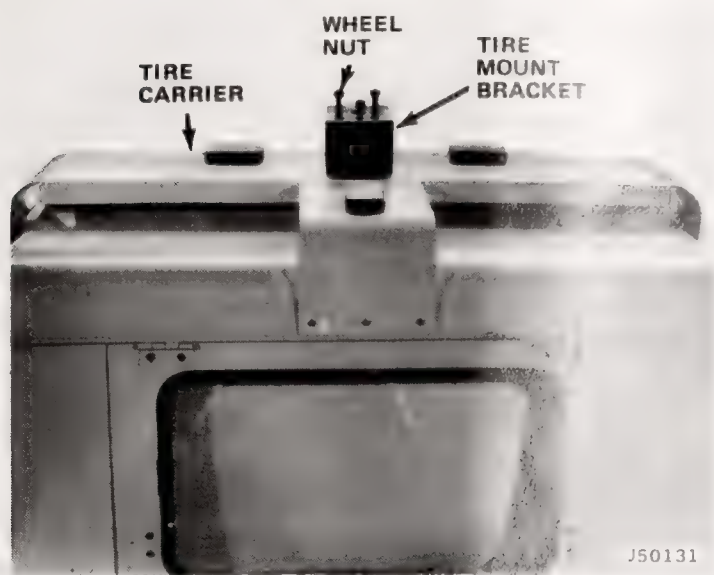

Fig. 6-4 Roof-Top Tire Carrier Installation
(6) Place tire carrier on roof and align tire carrier to roof sides and back (fig. 6-4). When properly positioned, mark and drill nine 9/32-inch holes using tire carrier as a template.
(7) Install tire carrier using 1/4-20 by 5/8-inch hex-head bolts, flatwasher, and locknuts. Tighten nuts to 5 foot-pounds torque.
(8) Mount spare tire on tire mount bracket using three wheel nuts.